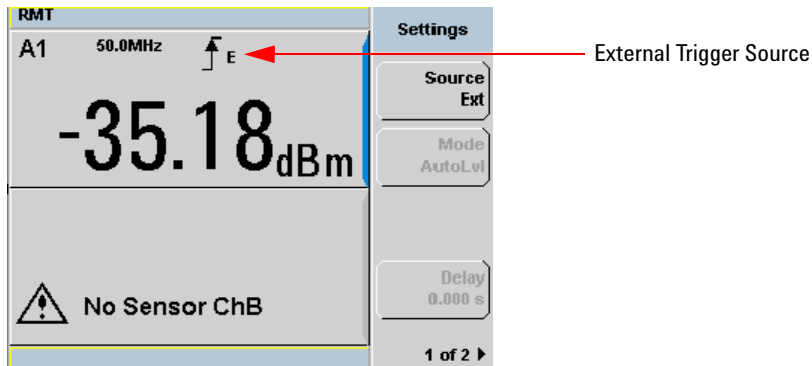
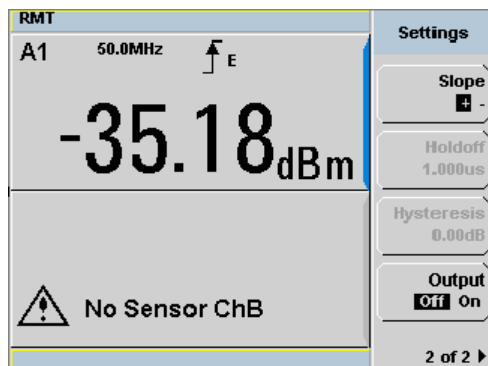

Figure 2-61 Trigger setting menu 1 of 2
Figure 2-62 Trigger setting menu 2 of 2
- 7 Press **Settings** to configure the remaining trigger parameters. The trigger **Settings** menu consists of two pages. **Figure 2-61** shows page 1 and **Figure 2-62** shows page 2.
- 7 Press **Settings** to configure the remaining trigger parameters. The trigger **Settings** menu consists of two pages. Figure 2-61 shows page 1 and Figure 2-62 shows page 2.